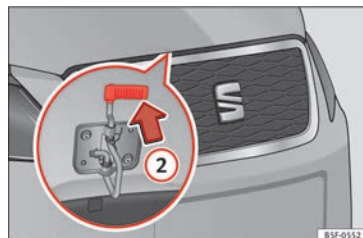

Fig. 9 Cam under the bonnet
- Lift up the bonnet. Press the release catch under the bonnet upwards »» Fig. 9 ②. The arrester hook under the bonnet is released.